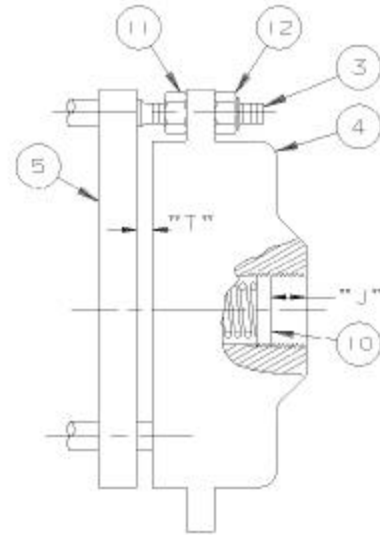

FIGURE 2.
5. Brake unit must be disassembled to mount. Remove cover (1) by removing four screws (13). **WARNING! Check dimension "J" for a .00 inch dimension, see FIGURE 2, page 4. If required, adjust spring plug (10) by turning with a 1-1/8 inch hex socket wrench to obtain a .00 inch dimension. This will reduce spring (8) force to prevent the magnet pot (4) from accidentally moving off the mounting studs (3) when removing the locknuts (12).** Remove three locknuts (12) from mounting studs (3). Remove magnet pot (4), three nuts (11), armature plate (5), brake discs (6), brake plates (7) and brake disc (22).
1. AIR GAP adjustment, dimension "T" FIGURE 2, must be maintained to allow the brake to release and prevent the loss of braking torque. Dimension "T" is measured between the surfaces of the magnet pot (4) and the armature plate (5) at three equal distance points (120 degrees apart) about the magnet pot (4). This dimension should be held at 0.032 inches and in no case allowed to exceed 0.12 inches.
**MAGNET POT (4) WILL BE PROPELLED OFF THE MOUNTING STUDS (3) BY THE BRAKE SPRING (8) IF THE LOCKNUTS (12) ARE REMOVED.**
2. BRAKE TORQUE adjustment, dimension "J" FIGURE 2, controls braking effort by changing the spring (8) pressure. Increasing dimension "J" increases brake torque and decreasing "J" decreases brake torque. Brake nameplate located on the brake unit cover shows the "Minimum", "Maximum" and "Set" dimensions for brake torque. The "Minimum" dimension is the smallest dimension that the brake can be set at to obtain the least braking torque. The "Maximum" dimension is the largest dimension that the brake can be set at to obtain the highest brake torque. Exceeding this